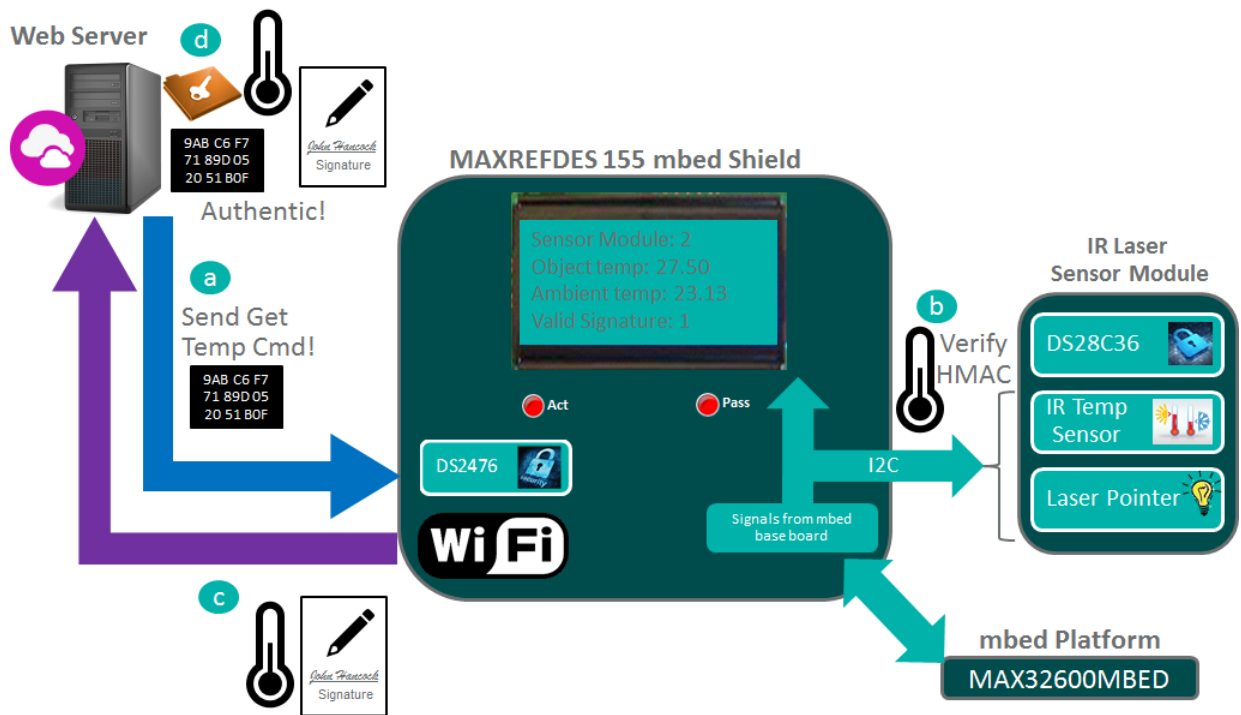

Figure 15. An illustration of Authenticated temperature readings.
4. In summary, the **Temperature Demo** authenticates temperature each time by doing the following (**Figure 15**):